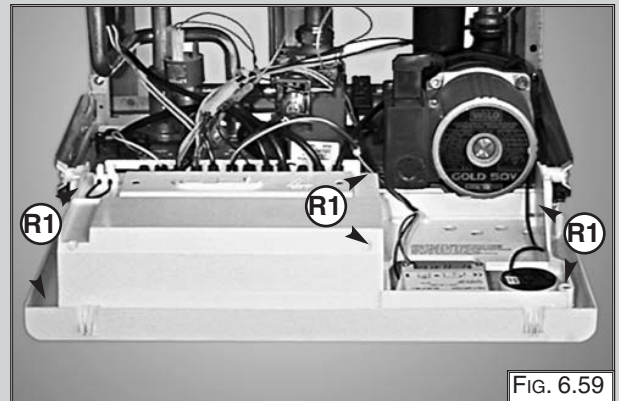

FIG. 6.59
4. Remove the screws "R1" (Fig. 6.59);